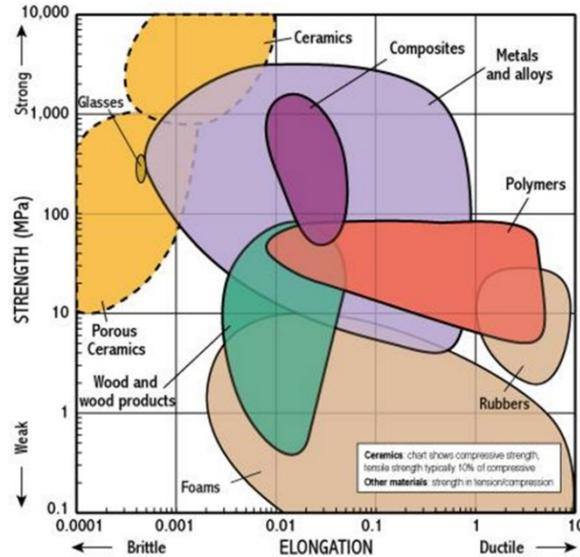

Figure 2 - Strength of Materials
- Figure 2 shows material strengths from weakest to strongest – bottom to top